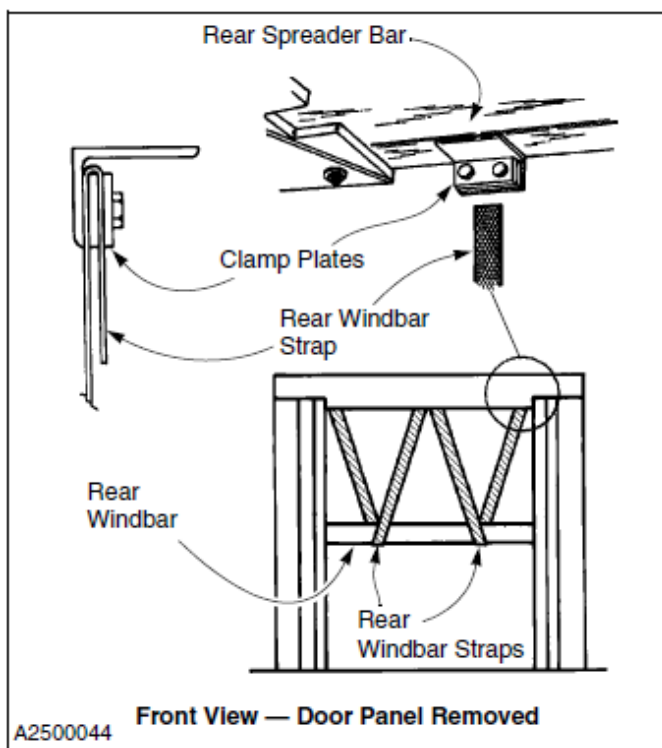

Figure 69
- Rear Windbar:** Route the straps under the rear windbar and up through the rear clamp plates located on the underside of the rear spreader bar. (See Figure 69)